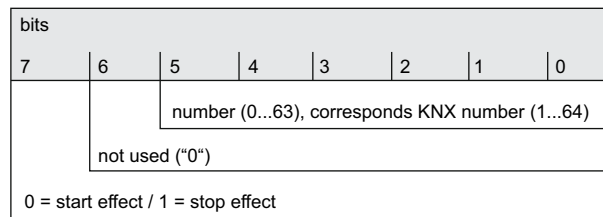

Figure 54: Structure of the object value for the effect extension
Just like scenes, effects possess KNX numbers (1...64). These KNX numbers can be used to start and also stop individual effects using the extension object of the effect function. The KNX numbers are configured individually for each effect. KNX numbers must be unique. It is not possible to assign the same KNX numbers to multiple effects. The structure of the telegram value for the effect extension is orientated to the KNX DPT 18.001, which is also used in the scene extension (Figure 54).
- i** It should be noted that the object value of the extension input is always "1" less than the configured KNX number, in accordance with KNX DPT 18.001 (Figure 54).